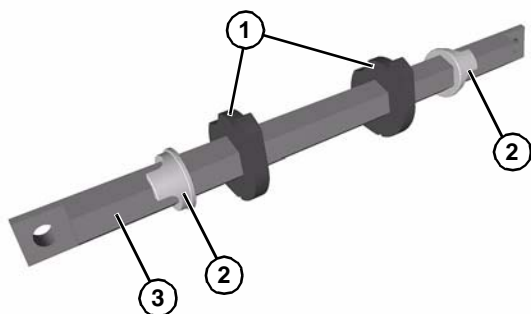

Figure 15
1. Slide stop keys (Figure 15, item 1) and tip up sleeves (Figure 15, item 2) onto hex shaft (Figure 15, item 3). The tabs on the tip up sleeves face outward and align with the slotted ends of the hex shaft as shown.